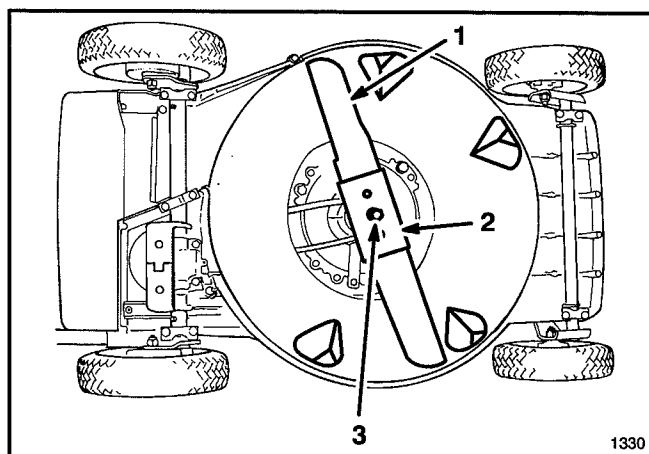

Figure 23
5. REMOVING BLADE—Grasp end of blade using a rag or thickly padded glove. Remove blade bolt, lock washer, blade and blade stiffener (Fig. 23).